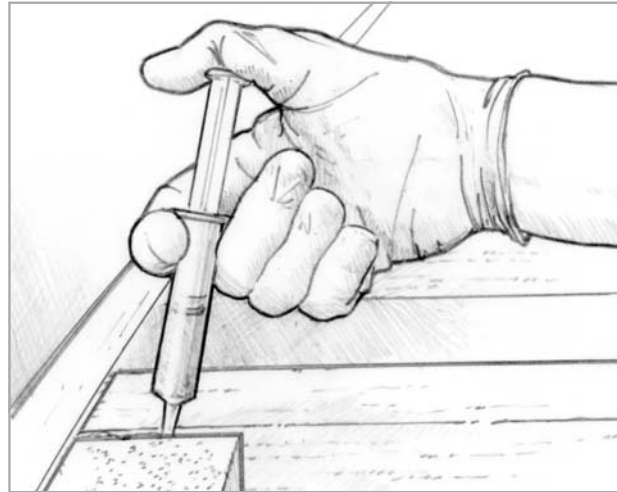

Figure 4-8 Inject epoxy as far as possible into the joint.
4. Apply thickened epoxy to the contact area of the joint. Use a syringe to inject an epoxy/406 filler mixture to the middle of the joint (*Figure 4-8*). A small plastic tube or straw taped to the spout of the syringe will extend the reach of the syringe into a tight area. Inject enough of the thickened mixture so that a small amount will squeeze out when the joint is clamped together.